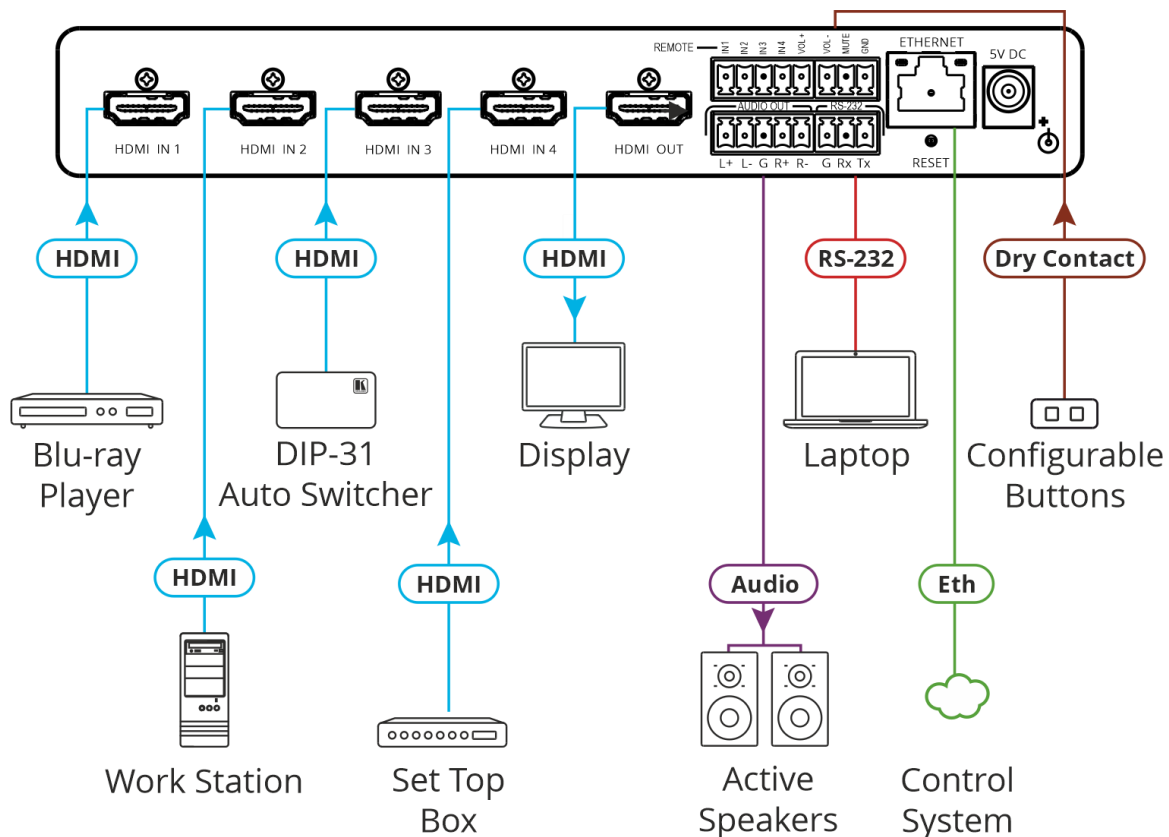

Figure 5: Connecting to the VS-411XS Rear Panel
To connect **VS-411XS** as illustrated in the example in Figure 5:
- Connect an HDMI source to the HDMI IN connectors (7), for example, Connect:
- Connect HDMI OUT (8) to an HDMI acceptor (for example, a display).
- Connect REMOTE dry-contact terminal block connectors (10) to configurable buttons to select an input (see Using Contact Closure Remote Control Pins on page 16) or activate a custom Maestro trigger (see Configuring Device Control and Automation on page 41).
5. Connect the RS-232 3-pin terminal block connector (14) to the RS-232 port on a controller (for example, a laptop) to control the **VS-411XS**.
6. Connect the ETHERNET RJ-45 port (11) to the LAN.
7. Connect the 5V power adapter to **VS-411XS** and to the mains electricity (not shown in Figure 5).